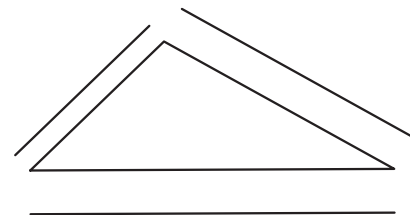

Fig. 16-7
5. Do the same with the remaining two lines in the triangle so that the object looks similar to the one in Fig. 16-7.